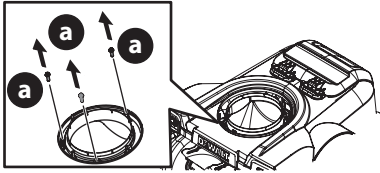

Figure 6
1. Remove the hex washer screws (a) in the chute base (Figure 6).